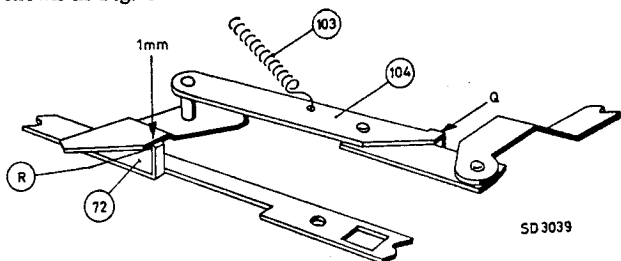

Fig. 8
With the Play key depressed and the coupling assembly held against its stop (as indicated by R.H. arrow (Q) in Fig. 8), there should be a clearance of at least 1mm. between the end of this coupling assembly R and the vertical tongue on play strip 72 as shown in Fig. 8.